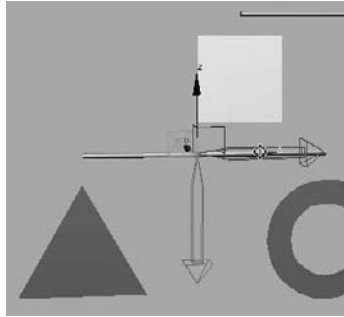

Figure 2.45
3. Click the X-axis Move handle (the small red arrow inside the larger outline of an arrow) and move the pivot along the length of the bar to the middle of the bar, as shown in Figure 2.45.